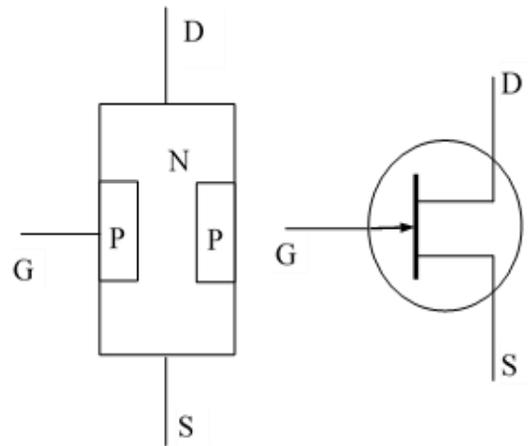

Figure 2.18: N-channel FET
FET is built from one bar N-type semiconductor. The bottom of the channel is connected to a terminal called "source" (S) and at the top is connected to a terminal called "Drain"(D). In the middle of the channel has two P-type materials forming two P-N junctions for a terminal called "Gate"(G). This is known as N-Channel FET as shown in Figure 2.18.